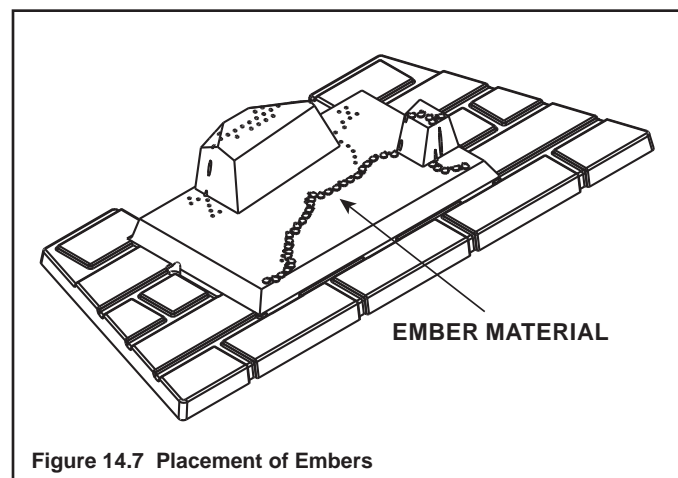

Figure 14.7 Placement of Embers
- Place dime-size pieces of Glowing Embers® just in front of the port trail, but not on or in between the ports (see Figure 14.7). Care should be taken so that the ports are not covered. Failure to follow this procedure will likely cause lighting and sooting problems.